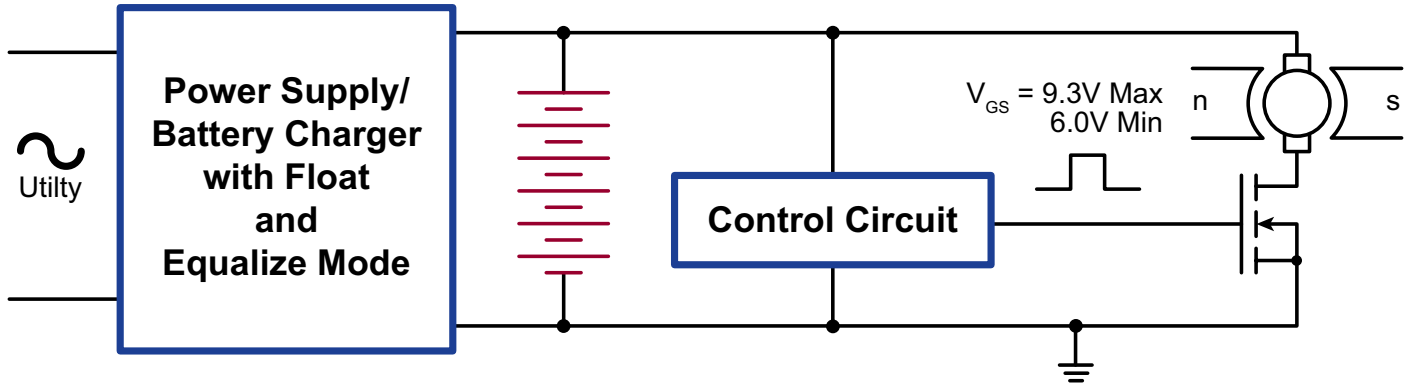

Figure 4: Motor of a Fluid Injection Pump
- ▶ Medical equipment with battery backup is another popular application. Figure 4 shows the motor of a fluid injection pump powered by the utility supply and backed by a NiCad battery. The $V_{GS} = 6.0V$ condition demands careful attention, because the $R_{DS(ON)}$ has to be low in order to ensure a low drain to source voltage drop. A large voltage drop can: A) affect motor performance, and B) cause high I^2R losses, reducing system efficiency and battery back-up time.